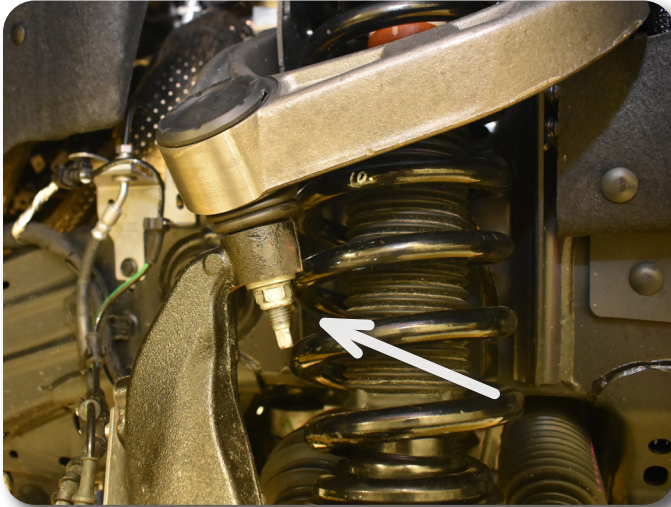

Figure 6
11. Attach the upper ball joint to the steering knuckle with factory hardware. Torque the upper ball joint nut to 46 ft-lbs Figure 6.